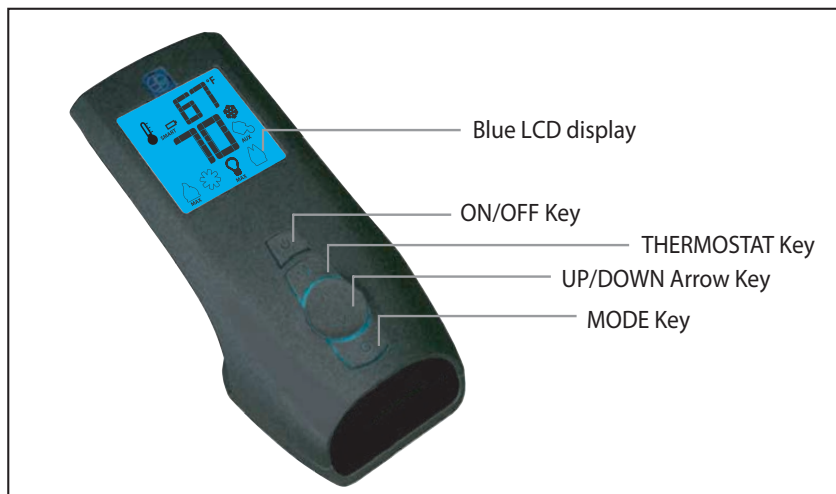

Figure 5: Proflame 2 Transmitter
The Proflame 2 Transmitter is a remote control with a blue backlit lcd display. It uses a streamline design with a simple button layout and informative lcd readout (Figure 5). The Transmitter is powered by three (3) AAA type batteries. A Mode Key is provided to Index between the features and a Thermostat Key is used to turn on/off or index through Thermostat functions (Figure 5 & 6)